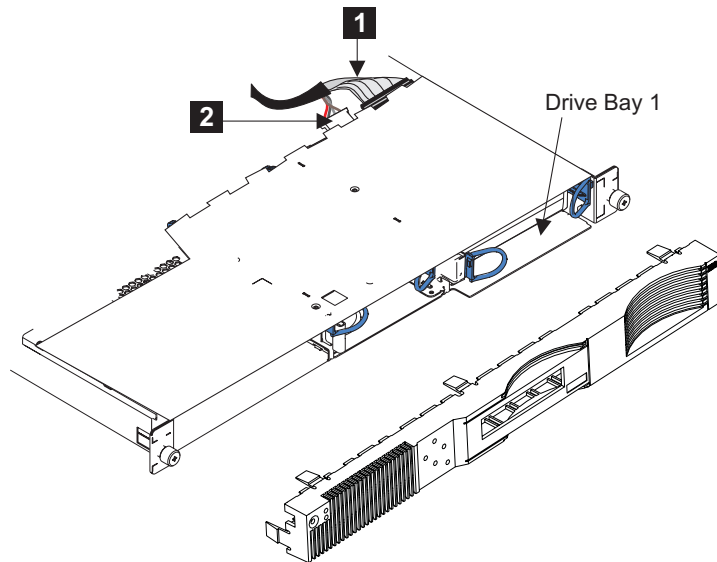

Figure 93. SAN Volume Controller 2145-4F2 disk drive and front panel
5. Connect the SCSI signal connector **1** and the power connector **2**, which are shown in Figure 93, to the back of the disk drive.